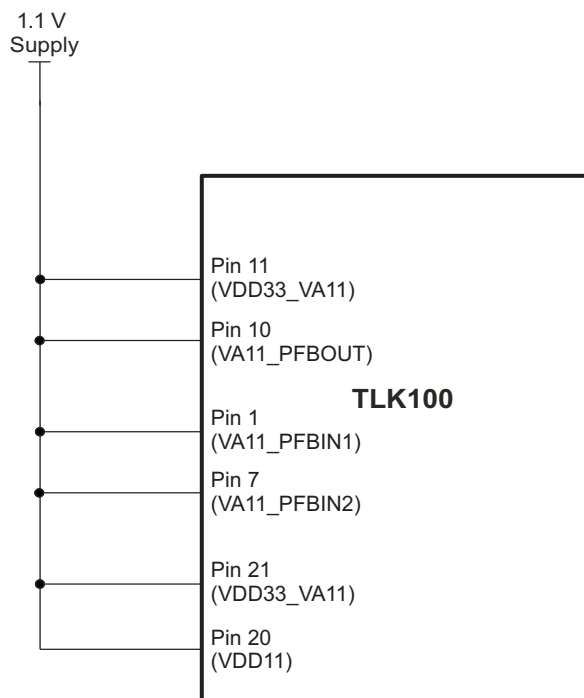

Figure 2-3. Power Scheme for Operation With External 1.1V Supply
- External 1.1V rail – When external 1.1V rail is available – Connect the external 1.1V to the following pins: VA11_PFBOUT (pin 10), VDD11 (pin 20), VA11_PFBIN1 (pin 1), VA11_PFBIN2 (pin 7), VDD33_VA11 (pin 11) and VDD33_VD11 (pin 21) as shown in Figure 2-3: